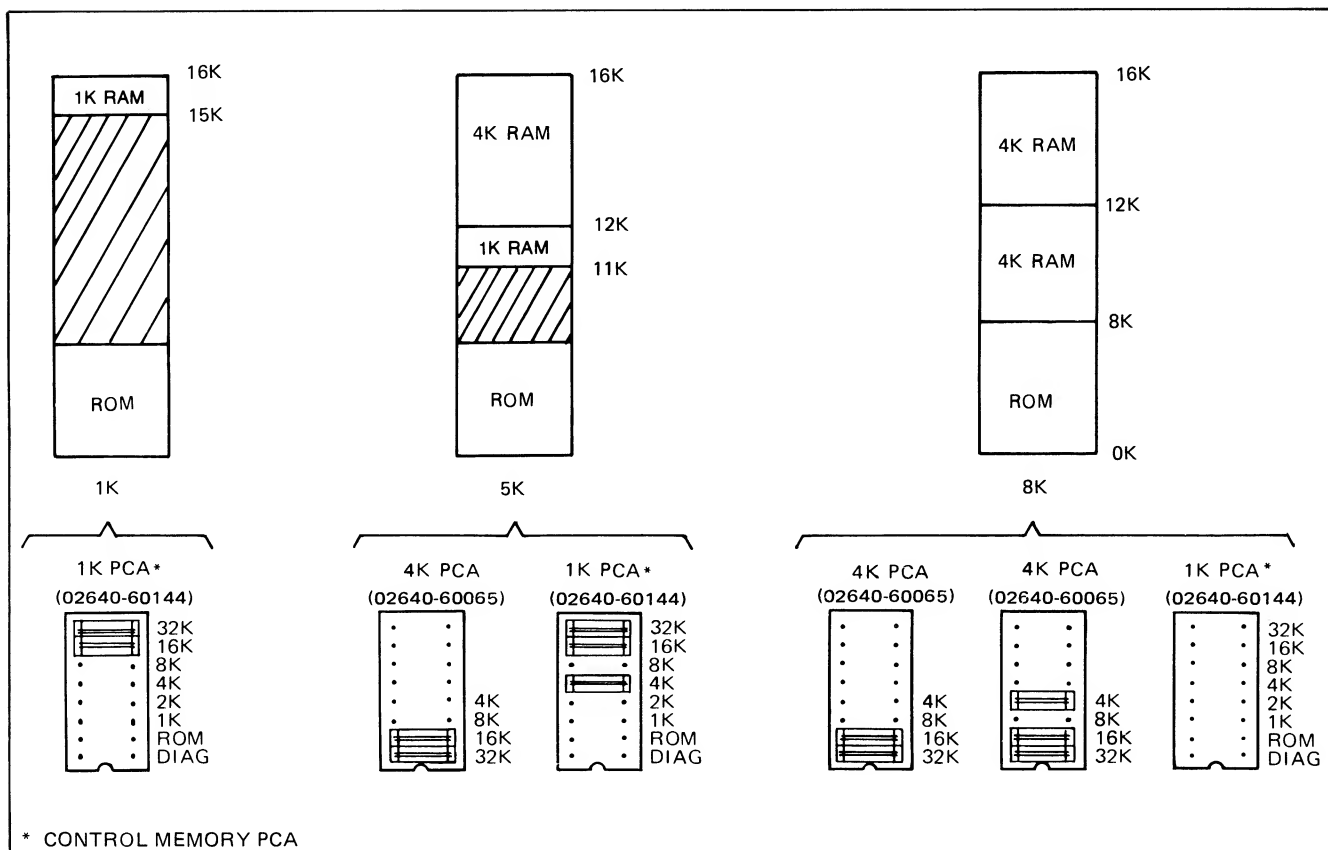

Figure 7-10. Memory Maps and Corresponding Memory Addressing Jumper Positions for 1K, 5K, and 8K
2. ( ) Locate and insure that the Control Memory (1K) PCA, part no. 02640-60144, has all properly installed jumpers. (See figure 7-10.)
4. ( ) Using figure 7-10 as a guide, arrange PCA starting address jumpers to select appropriate memory starting address for the size memory being configured.